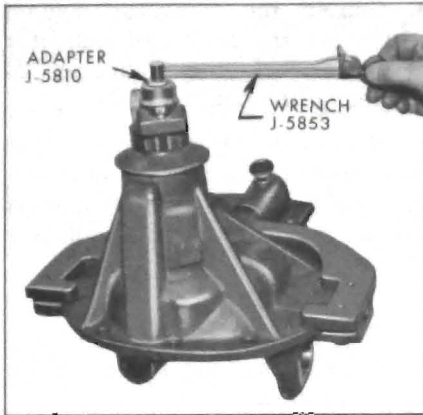

Figure 6-25—Checking Pinion Bearing Pre-Load
7. Rotate pinion three or four times to seat bearings. Turn pinion slowly with an inch pound torque wrench; bearing preload including drag of new seal should be 15 to 35 inch pounds. See Figure 6-25.